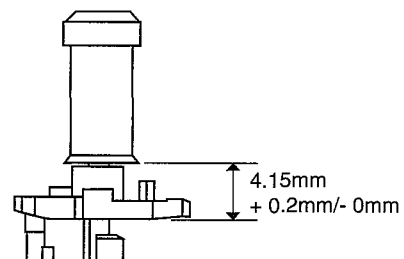

Fig. 3-3
3.4 Guide Rollers Height Rough Adjustment (Fig. 3-3)
- (1) Turn the top of each guide roller so that the specified values can be obtained as shown. (See Fig. 3-3)